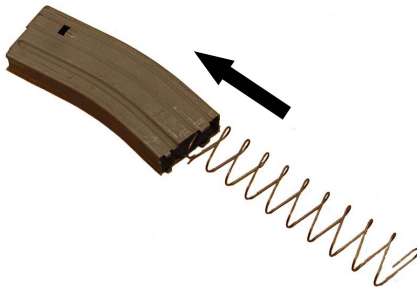

Figure 3-35. Insert Spring and Follower into Magazine
- (1) Clean and lubricate the magazine with Cleaner, Lubricant, Preservative (CLP). Wipe dirt from tube, spring and follower; then lightly lubricate spring.
- (2) Insert follower and manipulate spring to install. Refer to Figure 3-35.